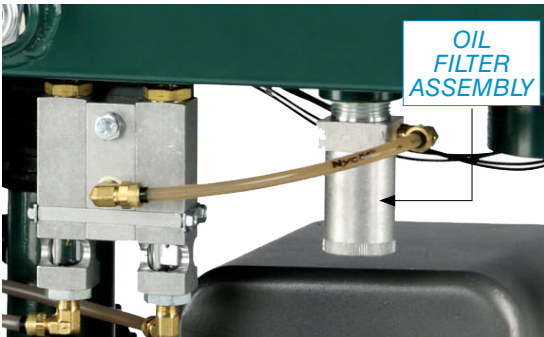

FIGURE 64. UNSCREW & REMOVE OIL FILTER ASSEMBLY; REMOVE ELEMENT
2. Unscrew oil filter assembly and remove filter element (FIGURE 64).